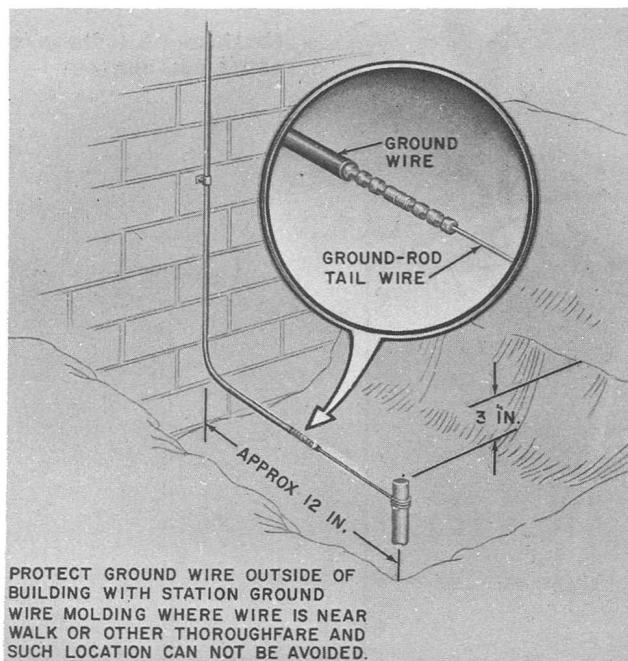

Fig. 27—Ground Rod Installation Near Wall
- (c) Approximately 12 inches from outside wall (Fig. 27).
- (g) Drive ground rods until the top of the rod is approximately 3 inches below ground level (Fig. 27 and 28). Increase depth where damage from digging is likely.
7.03 After the ground rod is installed, No. 14 station ground wire is spliced to the tail wire with a 0.064 brass sleeve. Press the sleeve 6 times, 3 times each side of center (Fig. 27 and 28). Do not tape splice. When a larger size of ground wire must be terminated on the ground rod, select the proper size and type of ground clamp as listed in Table C.